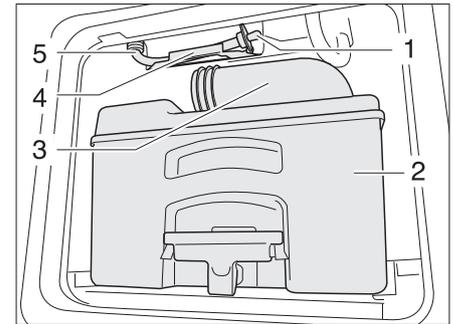

Fig. 111 Toilet water tank drain hose
- ▶ Empty the cassette (Fig. 111,2) at a disposal station authorized for this purpose and clean it.
- ▶ Leave the drainage neck (Fig. 111,3) open.
- ▶ Remove the drain hose (Fig. 111,5) from the holder (Fig. 111,4).
- ▶ Remove the drain plug (Fig. 111,1) and let the residual water run out.